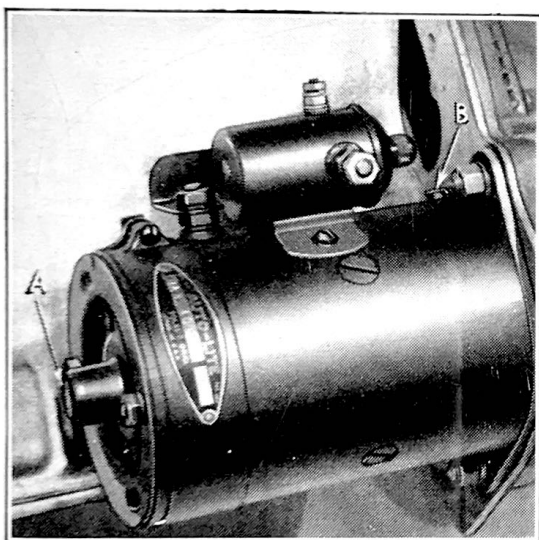

Figure 16
Starting Motor—The starting motor, Fig. 16, is located at the rear left corner of the engine and is fitted with a separate solenoid switch. Control of the starting motor is by means of a push button located on the instrument panel to the right of the ignition lock.
Lubrication—Two small oilers are provided for lubrication of the bearings. Every 2,000 miles the two oilers, (A) and (B) see Fig. 16, should be lubricated with a few drops of light engine oil. *Do this sparingly to prevent over-oiling.*